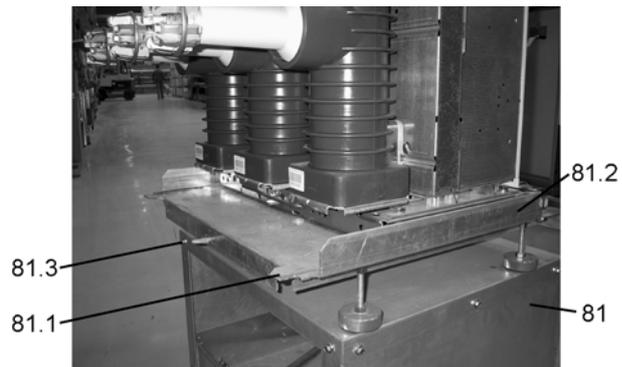

Figure 4.10
- 3) Position service truck (**81**) with guide pins (**81.1**) (Figure 4.10) of the adjustable bench top, at the correct height, facing the cubicle front, and allow catch (**81.3**) (Figure 4.10) to engage.